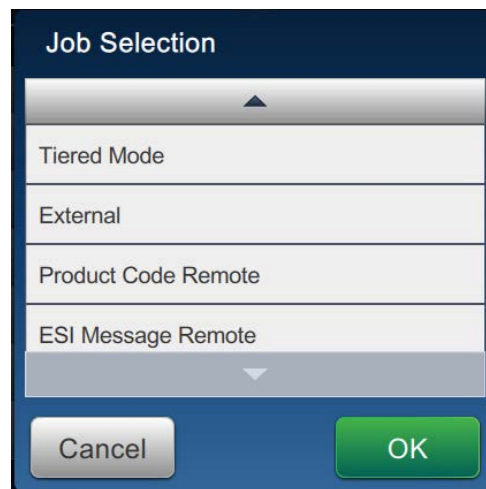

Figure 7-25: Job Selection Screen
4. Touch the *Job Selection* drop down list from the Job Select screen. The Job Selection screen is shown in Figure 7-25.
5. Select *ESI Message Remote* option from the Job Selection screen as shown in Figure 7-25. Touch the *OK* button to confirm the selection.